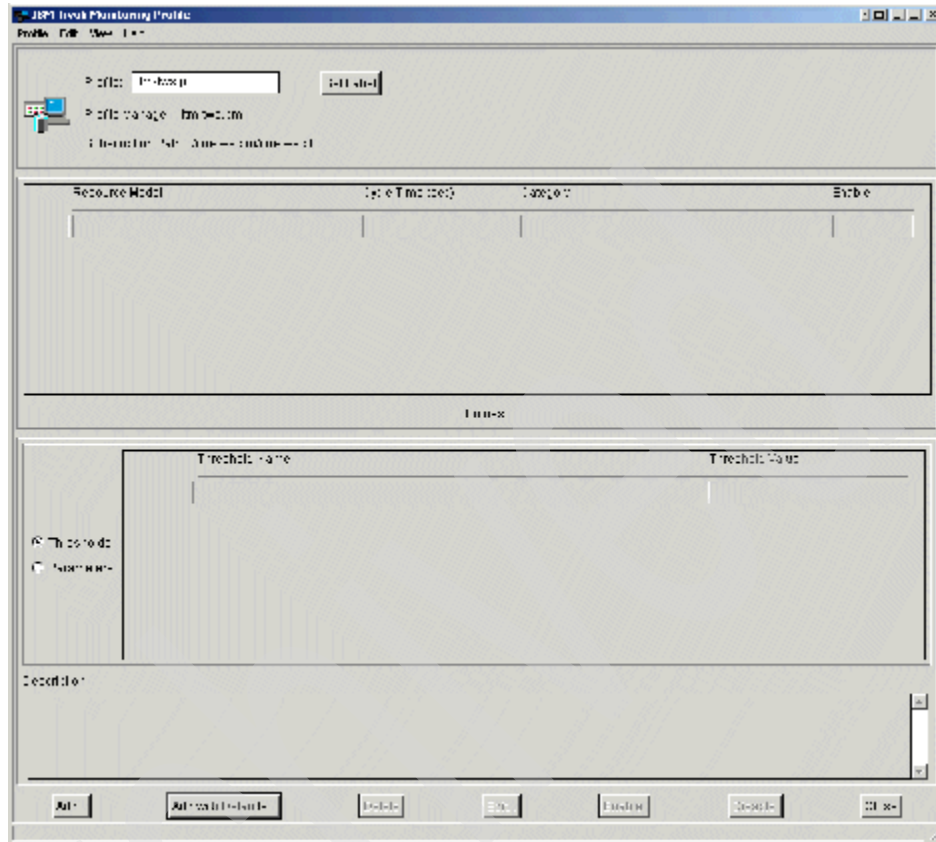

Figure 9-31 Tivoli Monitoring Profile window
5. The Tivoli Monitoring Profile window opens as shown in Figure 9-31 on page 454.